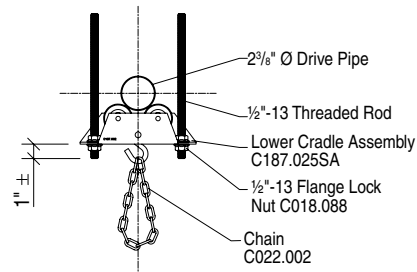

Figure 1
- ① Verify overall height and width with shop drawing to determine possible discrepancies.
- ② Attach winch support brackets to winch housing and install winch per location shown on shop drawing.
- ③ Install drive pipe support assembly (typically Z-Bracket and Flange Clamps) per locations shown on shop drawing.
- ④ Attach drive pipe support assemblies to Z-Bracket with threaded rod. Adjust assemblies vertically to proper height shown on shop drawing (see Fig. 1).
- ② In the down position make sure limit has been set to allow the fabric build up to be fully extended.
- ③ There are two basic vertical adjustments to this divider. One is the threaded rods attaching the drive pipe support assemblies to the drive pipe support angles. The other is the chain from the drive pipe support assembly to the top of the curtain (see Fig. 1).
- ④ If the belt tends to runoff in one direction when the curtain rolls up, instead of stacking up in a uniform pile, shim the belt within the pre-wrap (pre-wrap is described in steps 11-12 above). To shim: cut a 1/2" wide piece of belt from your excess belt. Unroll the curtain all the way and disengage down limit to expose pre-wrap on the drive. Position the 1/2" piece under an edge of pre-wrap (use the edge opposite the direction of runoff) and secure with double face tape. Roll the curtain back up a few turns to cover the pre-wrap and reset the down limit switch. Then continue rolling the curtain up. Repeat as necessary. No two curtains behave the same, so this is a trial and error procedure.